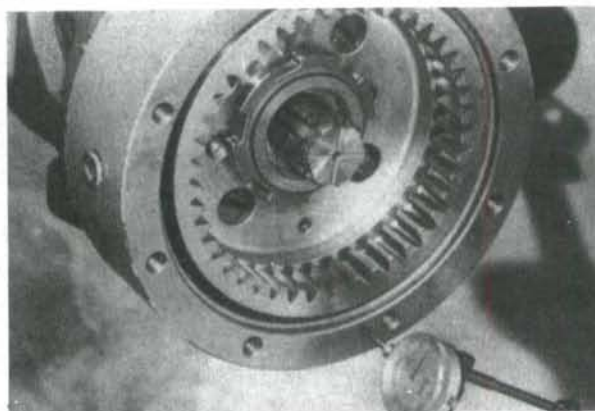

Fig. 10—To set stub axle bearing preload, mount a dial indicator so probe contacts face of wheel hub. Measure end play and refer to text.
PRELOAD. To set stub axle bearing preload, install shims (5—Fig. 7) having a total thickness of 2 mm (0.080 inch) next to spacer (6). Install planetary ring gear (3) and nut (1) minus tab washer (2). Using special spanner wrench (CAS-1607), tighten nut (1) to 203 N·m (150 ft.-lbs.) torque. Mount dial indicator so point of probe contacts outside face of hub. See Fig. 10. Measure and record amount of end play. Correct amount of bearing preload is 0.08-0.13 mm (0.003-0.005 inch). Subtract shims equal to measured end play plus 0.10 mm (0.004 inch) from previously installed shim pack to obtain correct bearing preload.